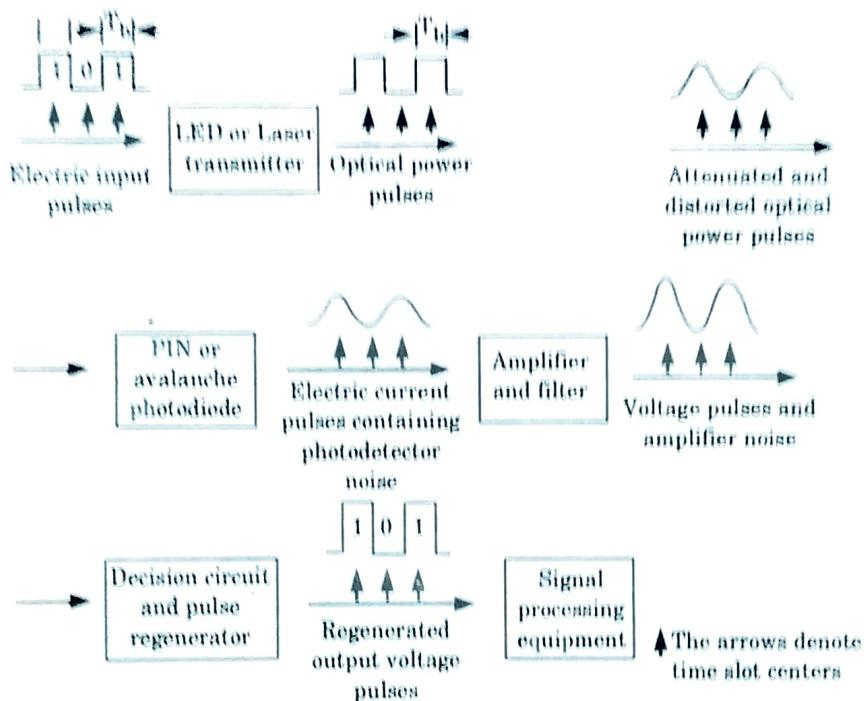

Fig. 4.23.1. Signal path through an optical data link.
2. Fig. 4.23.1, illustrates the shape of a digital signal at different points along an optical link.